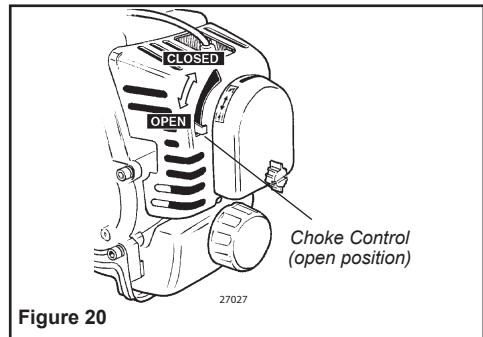

Figure 20
6. When the engine starts, slowly move the choke lever to the "OPEN" position. See Figure 20. (If the engine stops after the initial start, close the choke and restart.)